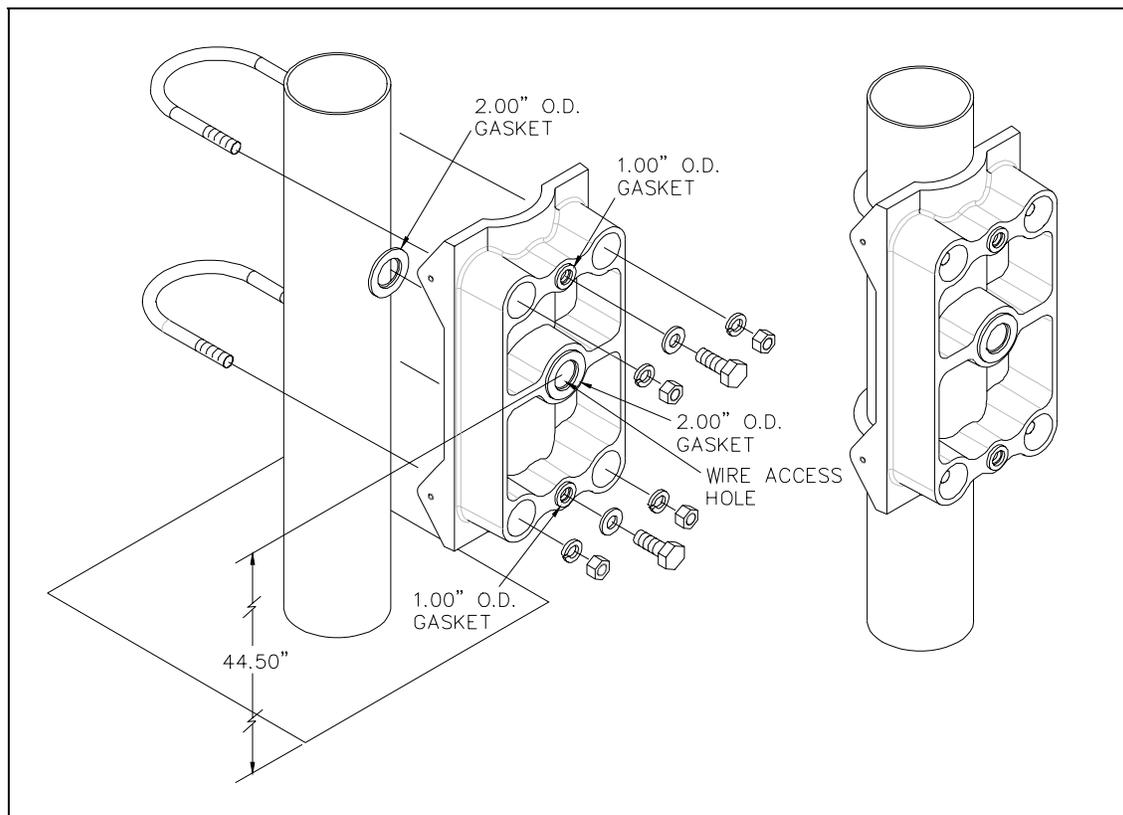

Figure 1. Call Box Mounting Bracket Assembly
1. Install the supplied gaskets as shown in Figure 1. Remove the paper backing from the gaskets and position them on the mounting bracket as shown. Place a 1-inch O.D. gaskets around each of the $\frac{1}{2}$ -inch mounting holes. Place one of the 2-inch O.D. gaskets on each side of the bracket over the 1.125-inch hole.
2. Mount the bracket by installing both supplied U-bolts around the exterior of the pole and through the bracket. Ensure that the bracket wire access hole is located no more than 44.5 inches above the ground where the call-box user is expected to stand. Refer to Figure 1 shown below.